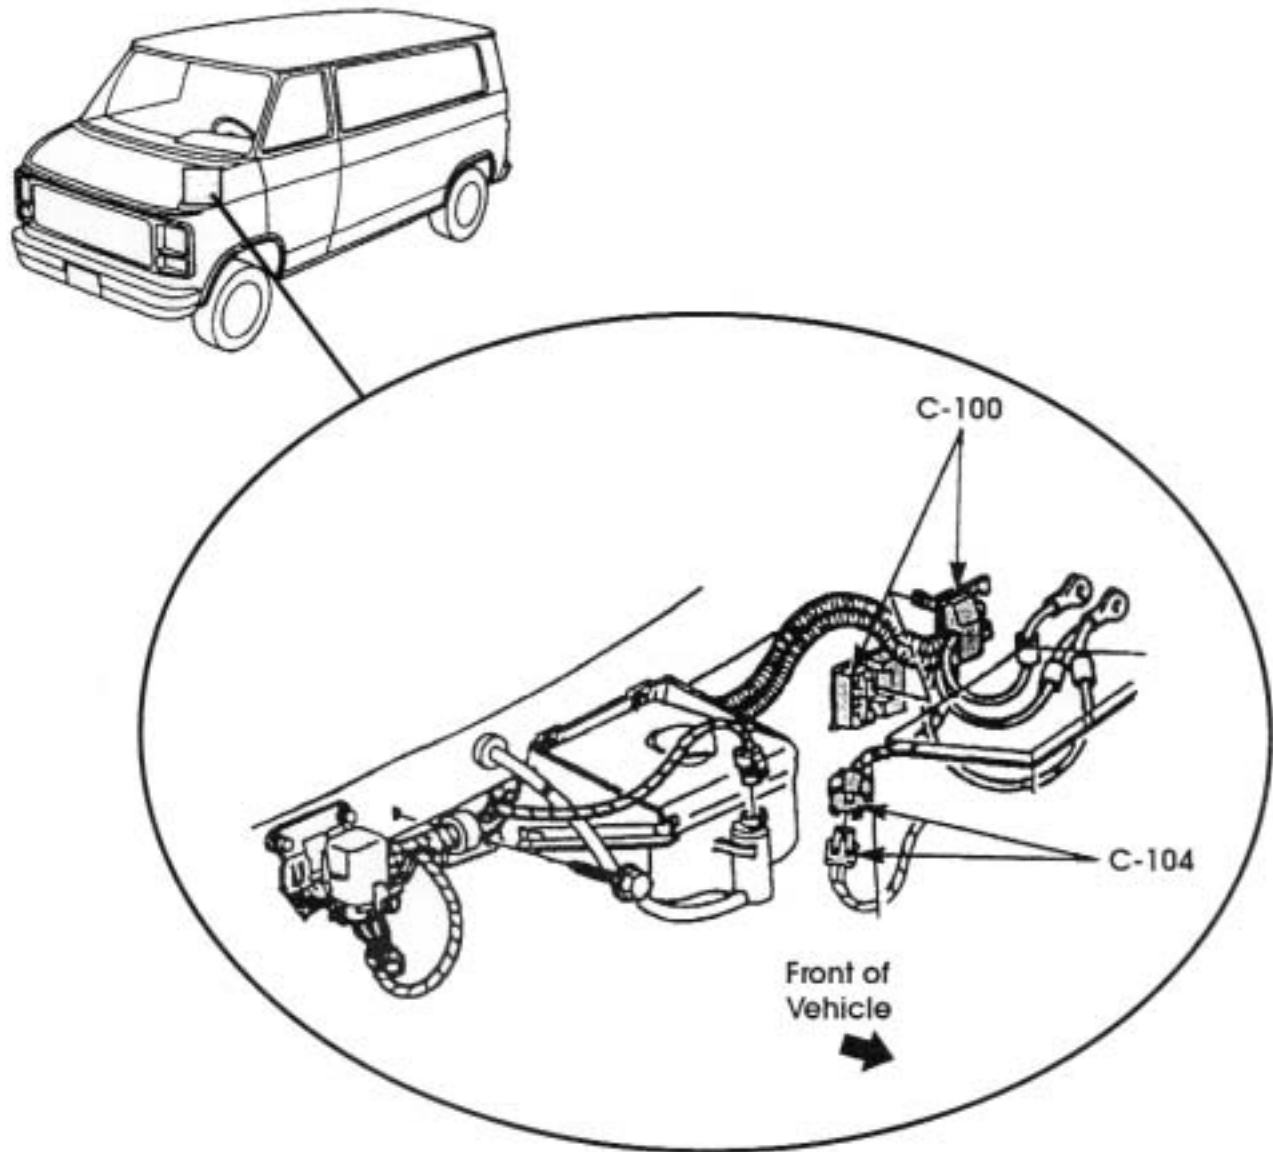

Figure 12
- Connector C-104 may be coated with undercoating, causing poor terminal contact. C-104 is a two-wire connector mounted on the driver's side of the cowl area, engine compartment side, near the bulkhead connector (figure 12).